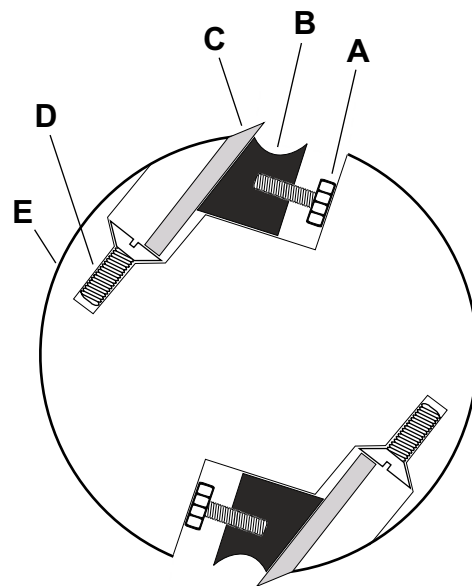

Figure 17
3. Rotate the *cutterhead* (E) until one knife is in the 12 o'clock position. The 12 o'clock position is the highest point a blade will reach in the cutting arc (C, Fig. 17).
4. Place the *knife setting gauge* (J) on the *outfeed table* (F). One end of the gauge should be positioned over the *cutting knife* (C) towards the near the end of the blade (G).